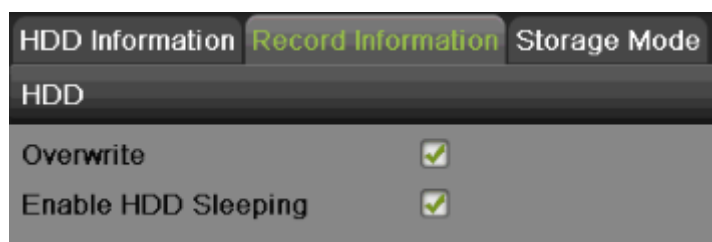

Figure 157 Record Information Menu
2. Select the Record Information tab, as shown in Figure 157.